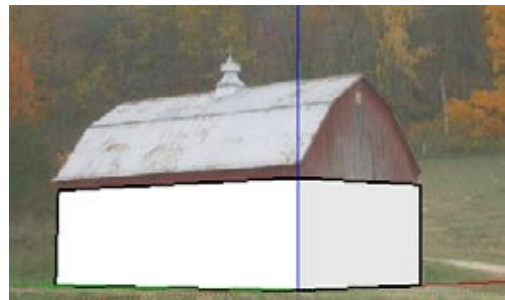

Figure 9-55
8. Push this face back to the back of the barn (Figure 9-55).